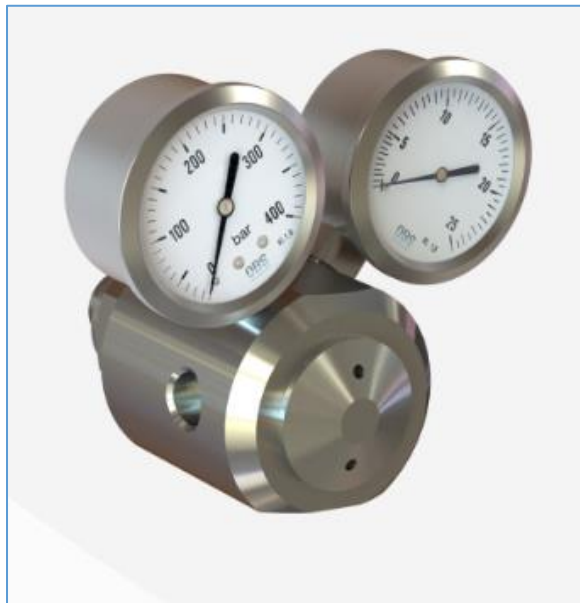

Figure 1: RPG-H08
The only adjustment after installation available for this regulator is the LP outlet pressure, which is defined by the preset tension of the springs. The adjustment screw (pos. 22) in Figure 1 must be turned clockwise to increase the tension of the springs (pos. 18, 19) and thereby increase the LP outlet pressure. Adjust spring tension until correct outlet pressure is obtained. One full turn corresponds to approximately 1 barg pressure change. When decreasing outlet pressure, make sure that the evacuation gas can be released.